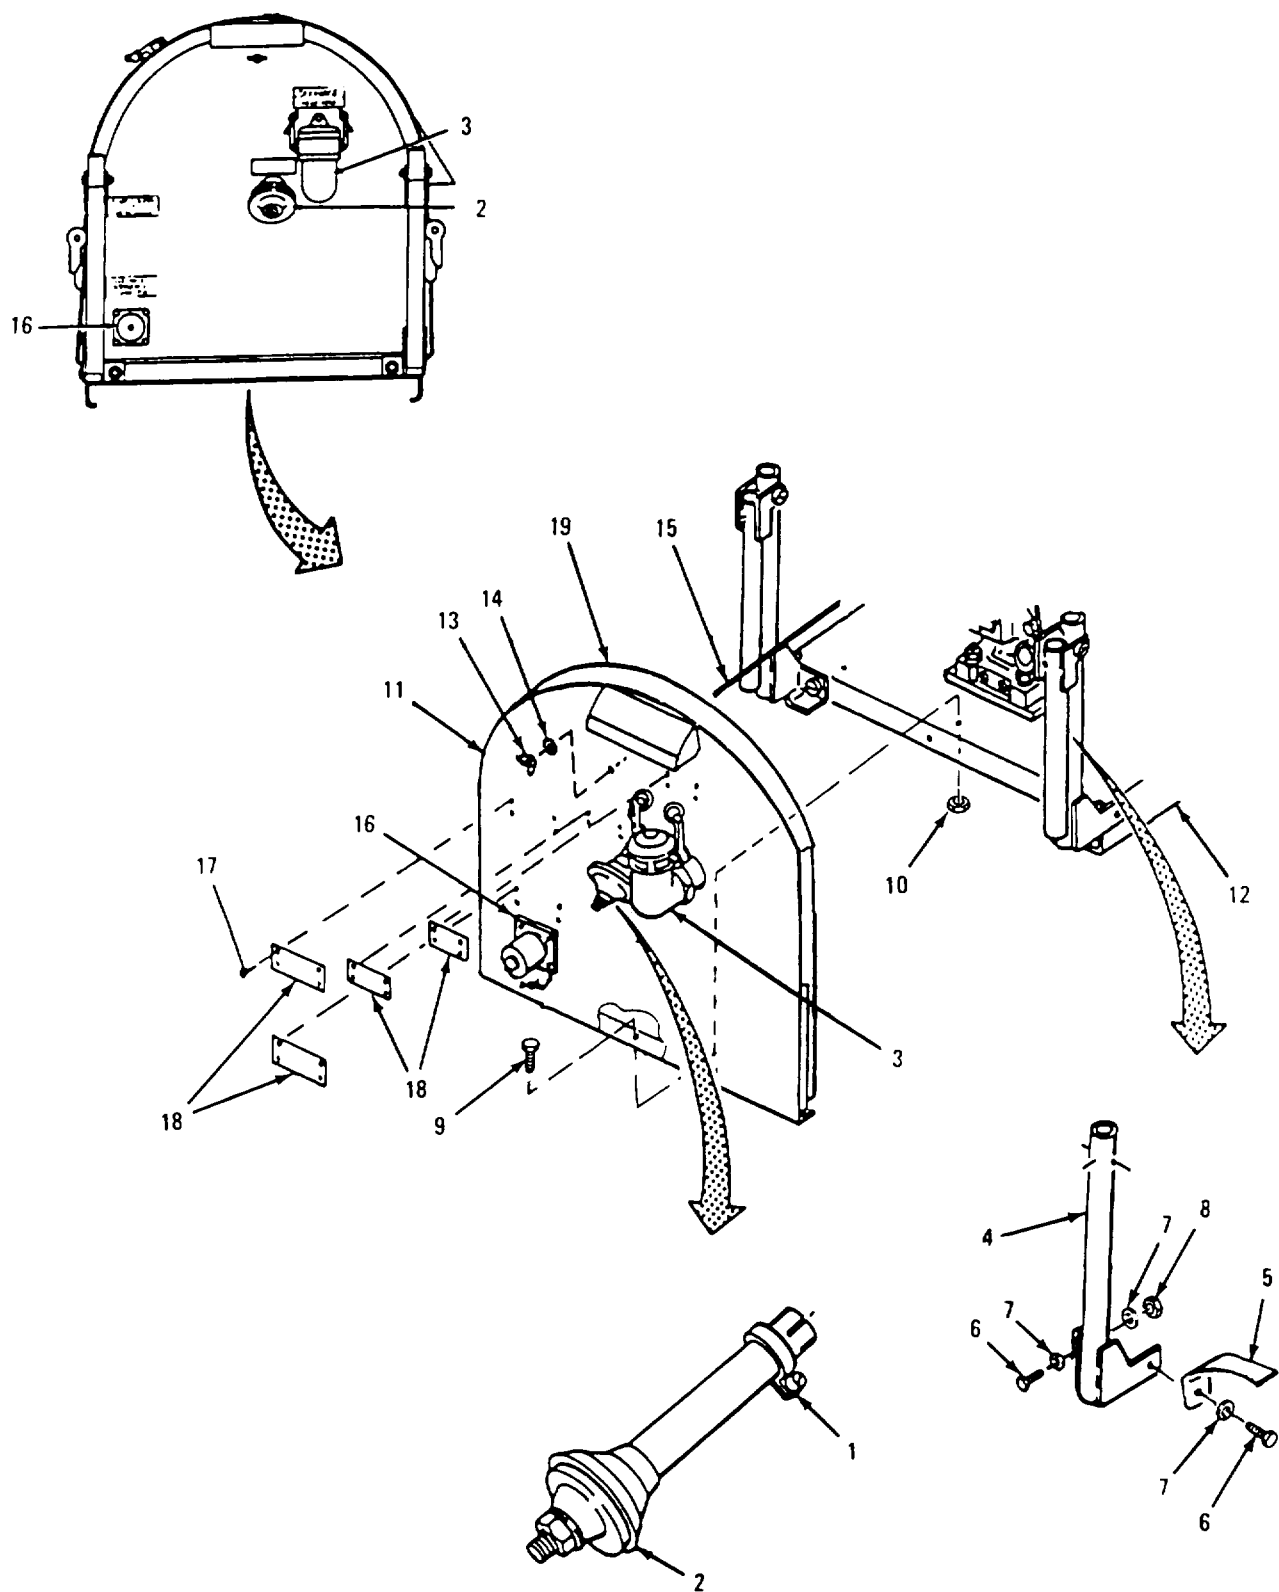

Figure 4-8. Sound Enclosure Rear Panel Assembly
2.7a(2) Sound enclosure cover assembly removed.
a. Removal. (Refer to Figure 4-8)
- (1) Loosen spark arrestor clamp (1) and remove spark arrestor (2).
- (2) Remove discharge coupling elbow (3).
- (3) Remove lifting handle assembly (4) and strap plate (5) nearest discharge coupling elbow (3) by removing two cap screws (6), four washers (7), and two self-locking nuts (8).
- (4) Remove three cap screws (9), and three self-locking nuts (10) securing the sound enclosure rear panel assembly (11) to the frame (12).
- (5) Remove two wing nuts (13) and two washers (14) from threaded rod (15). Remove threaded rod (15).
- (6) Tag and disconnect all wires attached to electrical connector (16).
- (7) Remove sound enclosure rear panel assembly (11) from frame (12).
- (8) Remove blind rivets (17) holding data plates (18) from sound enclosure rear panel assembly (11).
- (9) Remove damaged acoustical foam (17), pull the acoustical foam firmly away from sound enclosure rear panel assembly (11). Approximately 1/8 inch of acoustical foam (17) and adhesive backing will remain.